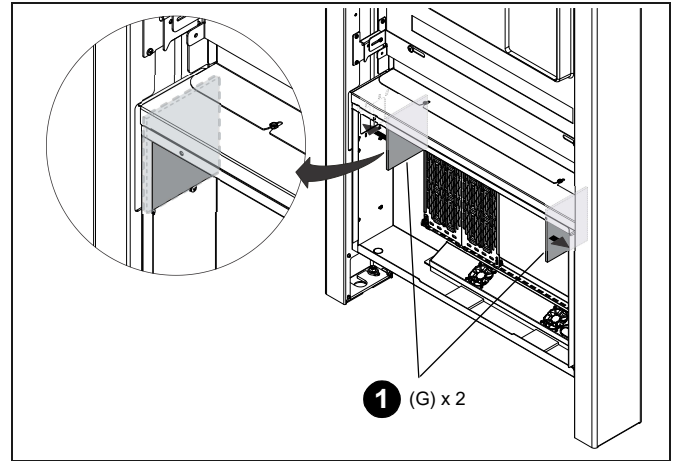

Figure 15
1. Place two large filters (G) over the large openings in the sides of the kiosk frame in the enclosed storage area. (See Figure 15)